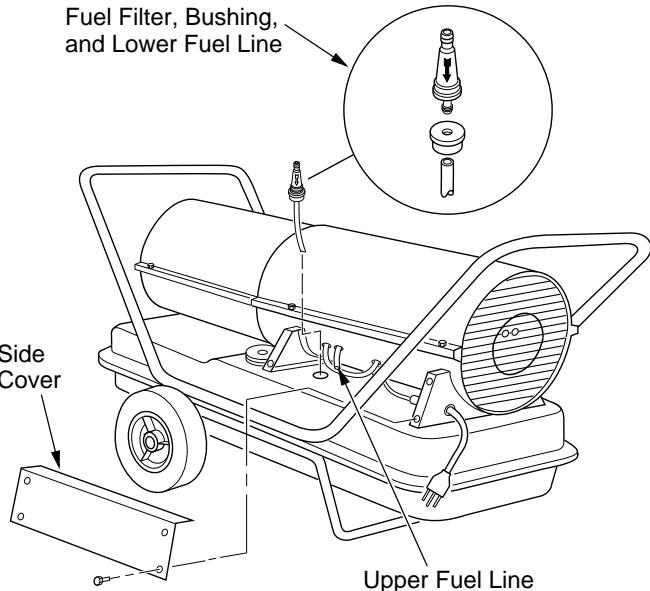

Figure 16 - Fuel Filter Removal, 110/115/150/155/165 Models
4. Carefully pry bushing, fuel filter, and lower fuel line (110/115/150/155/165 Models only) out of fuel tank (see Figure 16).
**Note:** See Figure 16, page 9 if your model does not come equipped with a fuel valve.